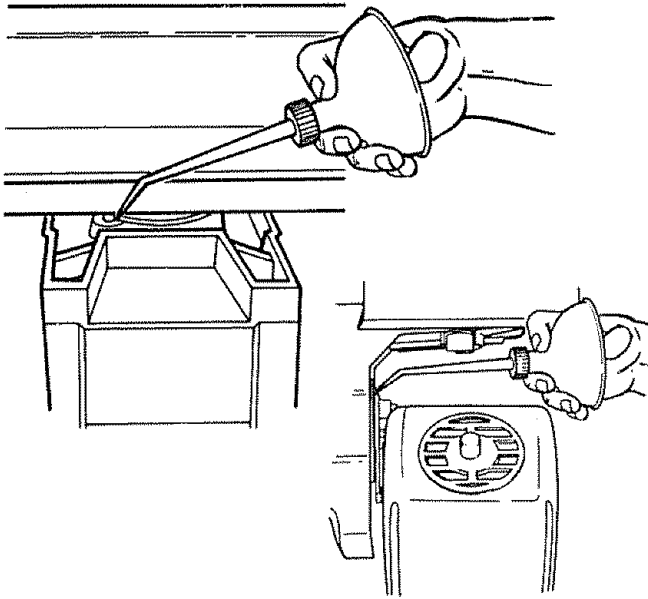

Fig. 140 - Swivel and Bevel Index Pins
- Apply a few drops of oil along the *swivel index pin* and the *bevel index pin* only if the pins have a tendency to stick. Swivel to in-rip or out-rip for easy access to the *swivel index pin*. Bevel to 45° and *bevel index pin* can be easily accessed behind the *yoke* as illustrated. (Figure 140)